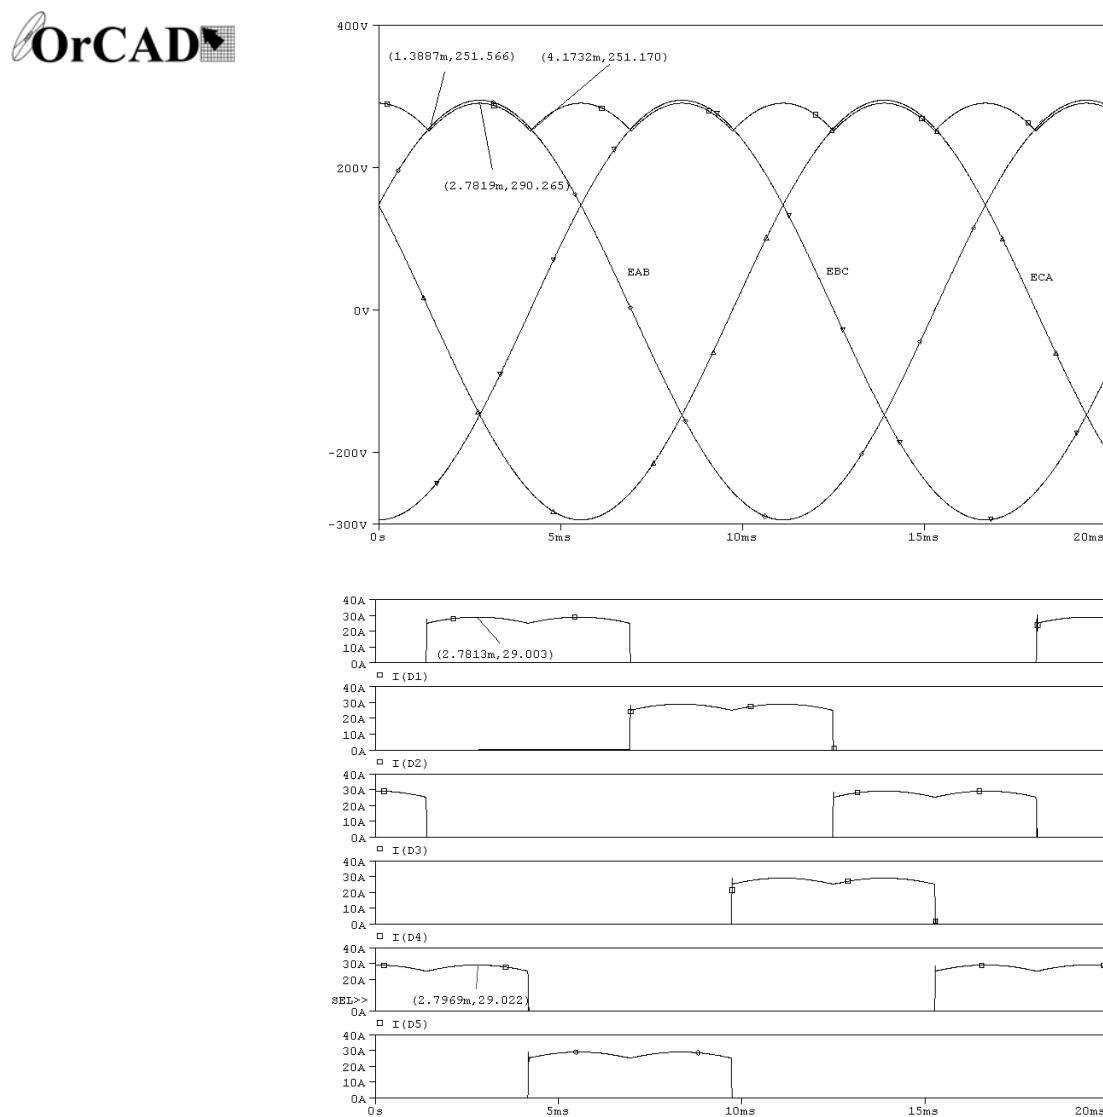

Figure 9-15 Three-phase ac-to-dc converter line voltages and currents
But that voltage is quite a bit larger than the generators', and not in phase with any of the sources. Look at the schematic closely. The load is connected to common, but neutral (N) is not. There is no direct connection between the load and the common of the sources. So, comparing the load voltage to the sources' phase signals is not appropriate. Instead, look at Figure 9-15. It is the same analysis, but plots the *line* voltages, instead of the phase.
The currents for the six diodes are also shown in Figure 9-15. At the 2.8 ms peak, current flows from source A \rightarrow D1 \rightarrow R_{load} \rightarrow D5 and to source B. At that instant, E_{BN} is negative. This forward biases D5 and allows the current to pass through source B and back to the negative side of source A. A similar analysis can be done for each of the six peaks in the load voltage.
The other key specification for the diode is its continuous forward current; that is, its dc or average current. Look at Figure 9-15. Each diode is *on* for one third of the time. During that time, the load current passes through the diode. So, while the diode is *on*, its average current is the load average current. But the diode is only *on* for one third of the time.
To determine the proper sequence for firing each of the SCRs, look back at Figure 9-15. This simulation shows the currents through each of the diodes in the simple three-phase rectifier. Diode 1 fires first, at 1.39 ms, or 30° with respect to E_{AN} . It then conducts until 6.96 ms, or for 120° before it turns off. However, halfway through its conduction, at 4.17 ms after D1 turns on, diode 6 also goes on. It also conducts for 120° before going off. Table 9-1 lists each of the diodes and their *nominal* starting time with respect to E_{AN} .